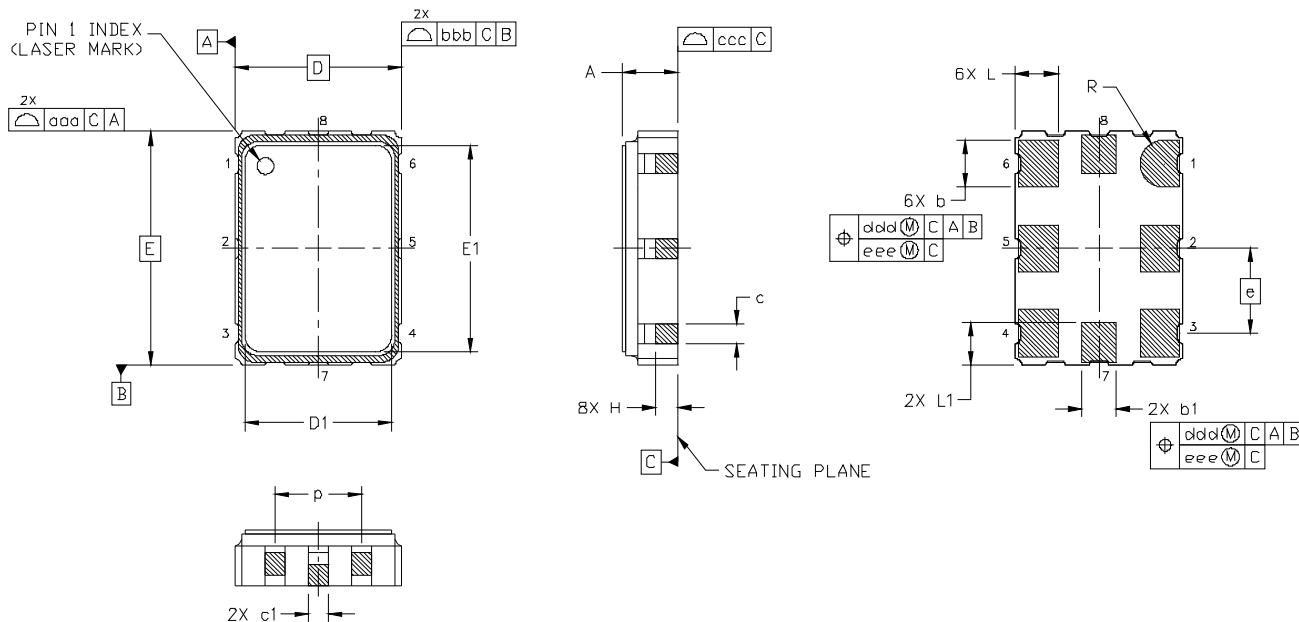

Figure 8. Si570/Si571 Outline Diagram
Figure 8 illustrates the package details for the Si570/Si571. Table 16 lists the values for the dimensions shown in the illustration.
- Updated Figure 8 and Table 16 on page 26 to include production test sidepads. This change is for reference only as the sidepads are raised above the seating plane and do not impact PCB layout.